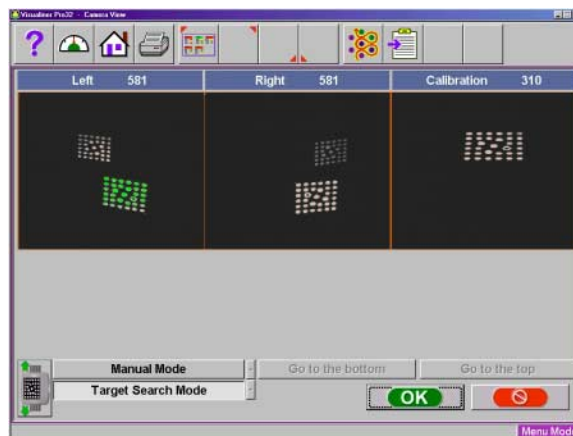

Figure 18
4. Using the mouse, select Manual Mode, then “Go to the bottom” (Figure 18). The motor should power up and move both cameras to the bottom of their travel (bottom shut-off switch).
- Refer to Figure 18 on page 21, select "Target Search Mode". Raise and lower the lift several times and make sure the system operates as intended.